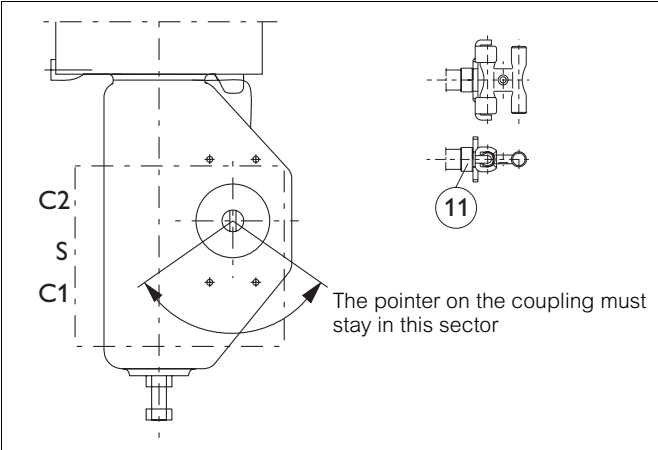

Fig. 3 Mounting on Metso actuator with VDI/VDE mounting face
- ☐ Mount the H-shaped coupling (47) to the shaft. Apply the thread-locking compound to the screw (48) and tighten firmly.
- ☐ **BJ and other single acting actuators:** mount a metal plug (53) with sealant to the C1 connection.
- ☐ Set the direction arrow of the actuator in the direction of the valve closure member and attach the ear (2) to the indicator cover in the position shown in Section 11.3. Secure the screw of the ear using e.g. Loctite and tighten firmly.
- ☐ Attach the bracket (1) to the SwitchGuard.
- ☐ Attach the bracket (1) to the actuator. The shaft coupling of the SwitchGuard must fit into the ear (2) so that the pointer is located in the position shown in Fig.3.